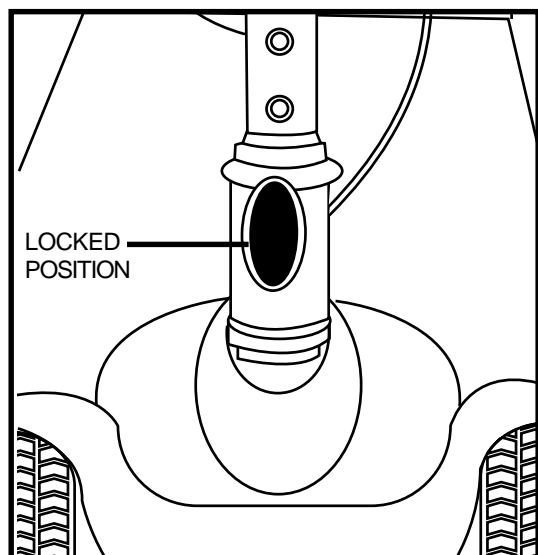

Figure 22. Tiller Lock knob (Locked)
1. Lock the tiller in the straight ahead position by pushing the tiller lock knob in and turning it clockwise 90°. See **figure 22**. The front wheel must face forward in order to lock the tiller.